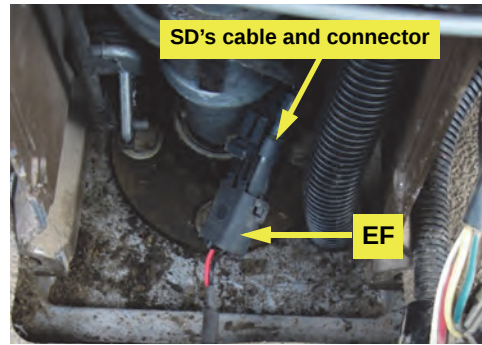

Figure 3c: ECU's SWS cable and steering wheel switch connected
- c. Refit the two column panels after you route SWS cable **EF** to **SD**'s connector and connect it in the ECU installation section following (Figure 3c).